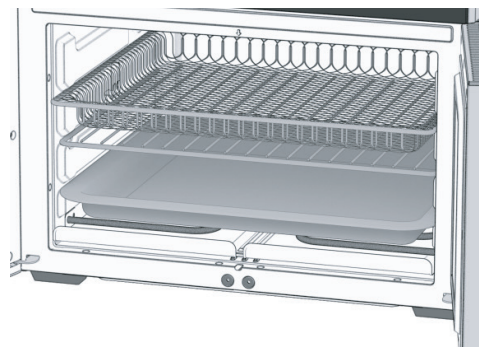

Figure 4
- Remove the divider when using the XL air fryer basket, wire rack and baking pan (see Figure 4).
- Use the rotisserie handle to place the chicken inside the oven, securing both ends of the rotisserie shaft into the rotisserie slots (see Figure 4).